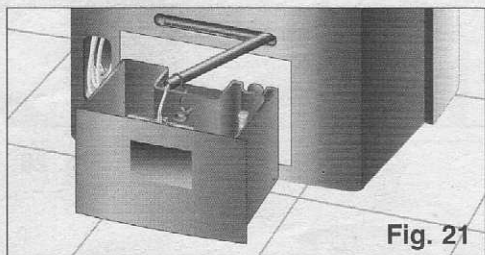

Fig. 21
- ❑ Place a bowl at the drainage pipe outlet and remove the plug to collect the condensed water, Fig. 21.